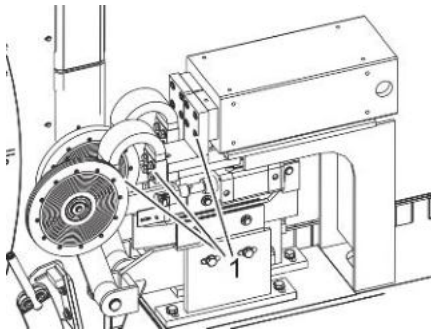

Fig. 31: Current carrying parts of the welding head
7. Before starting work, check the screw connections (Fig. 31/1) for tight fit, tighten if necessary.
5. Before starting work, check the screw connections (Fig. 31/1) for tight fit, tighten if necessary.